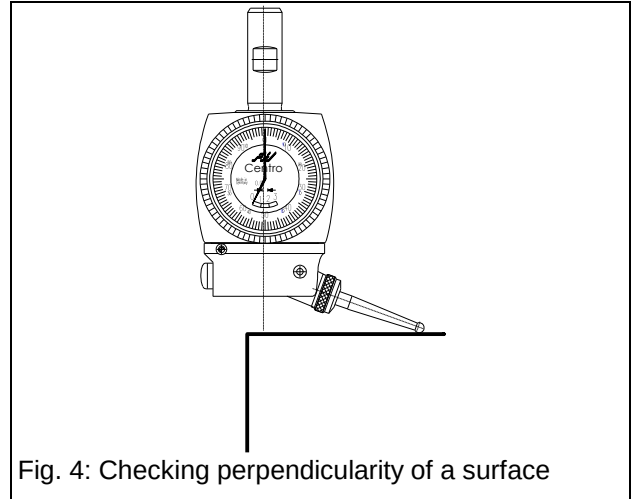

Fig. 4: Checking perpendicularity of a surface
2 Checking the perpendicularity of a surface (Fig. 4)
- Swivel probe tip sidewise (Fig. 4)